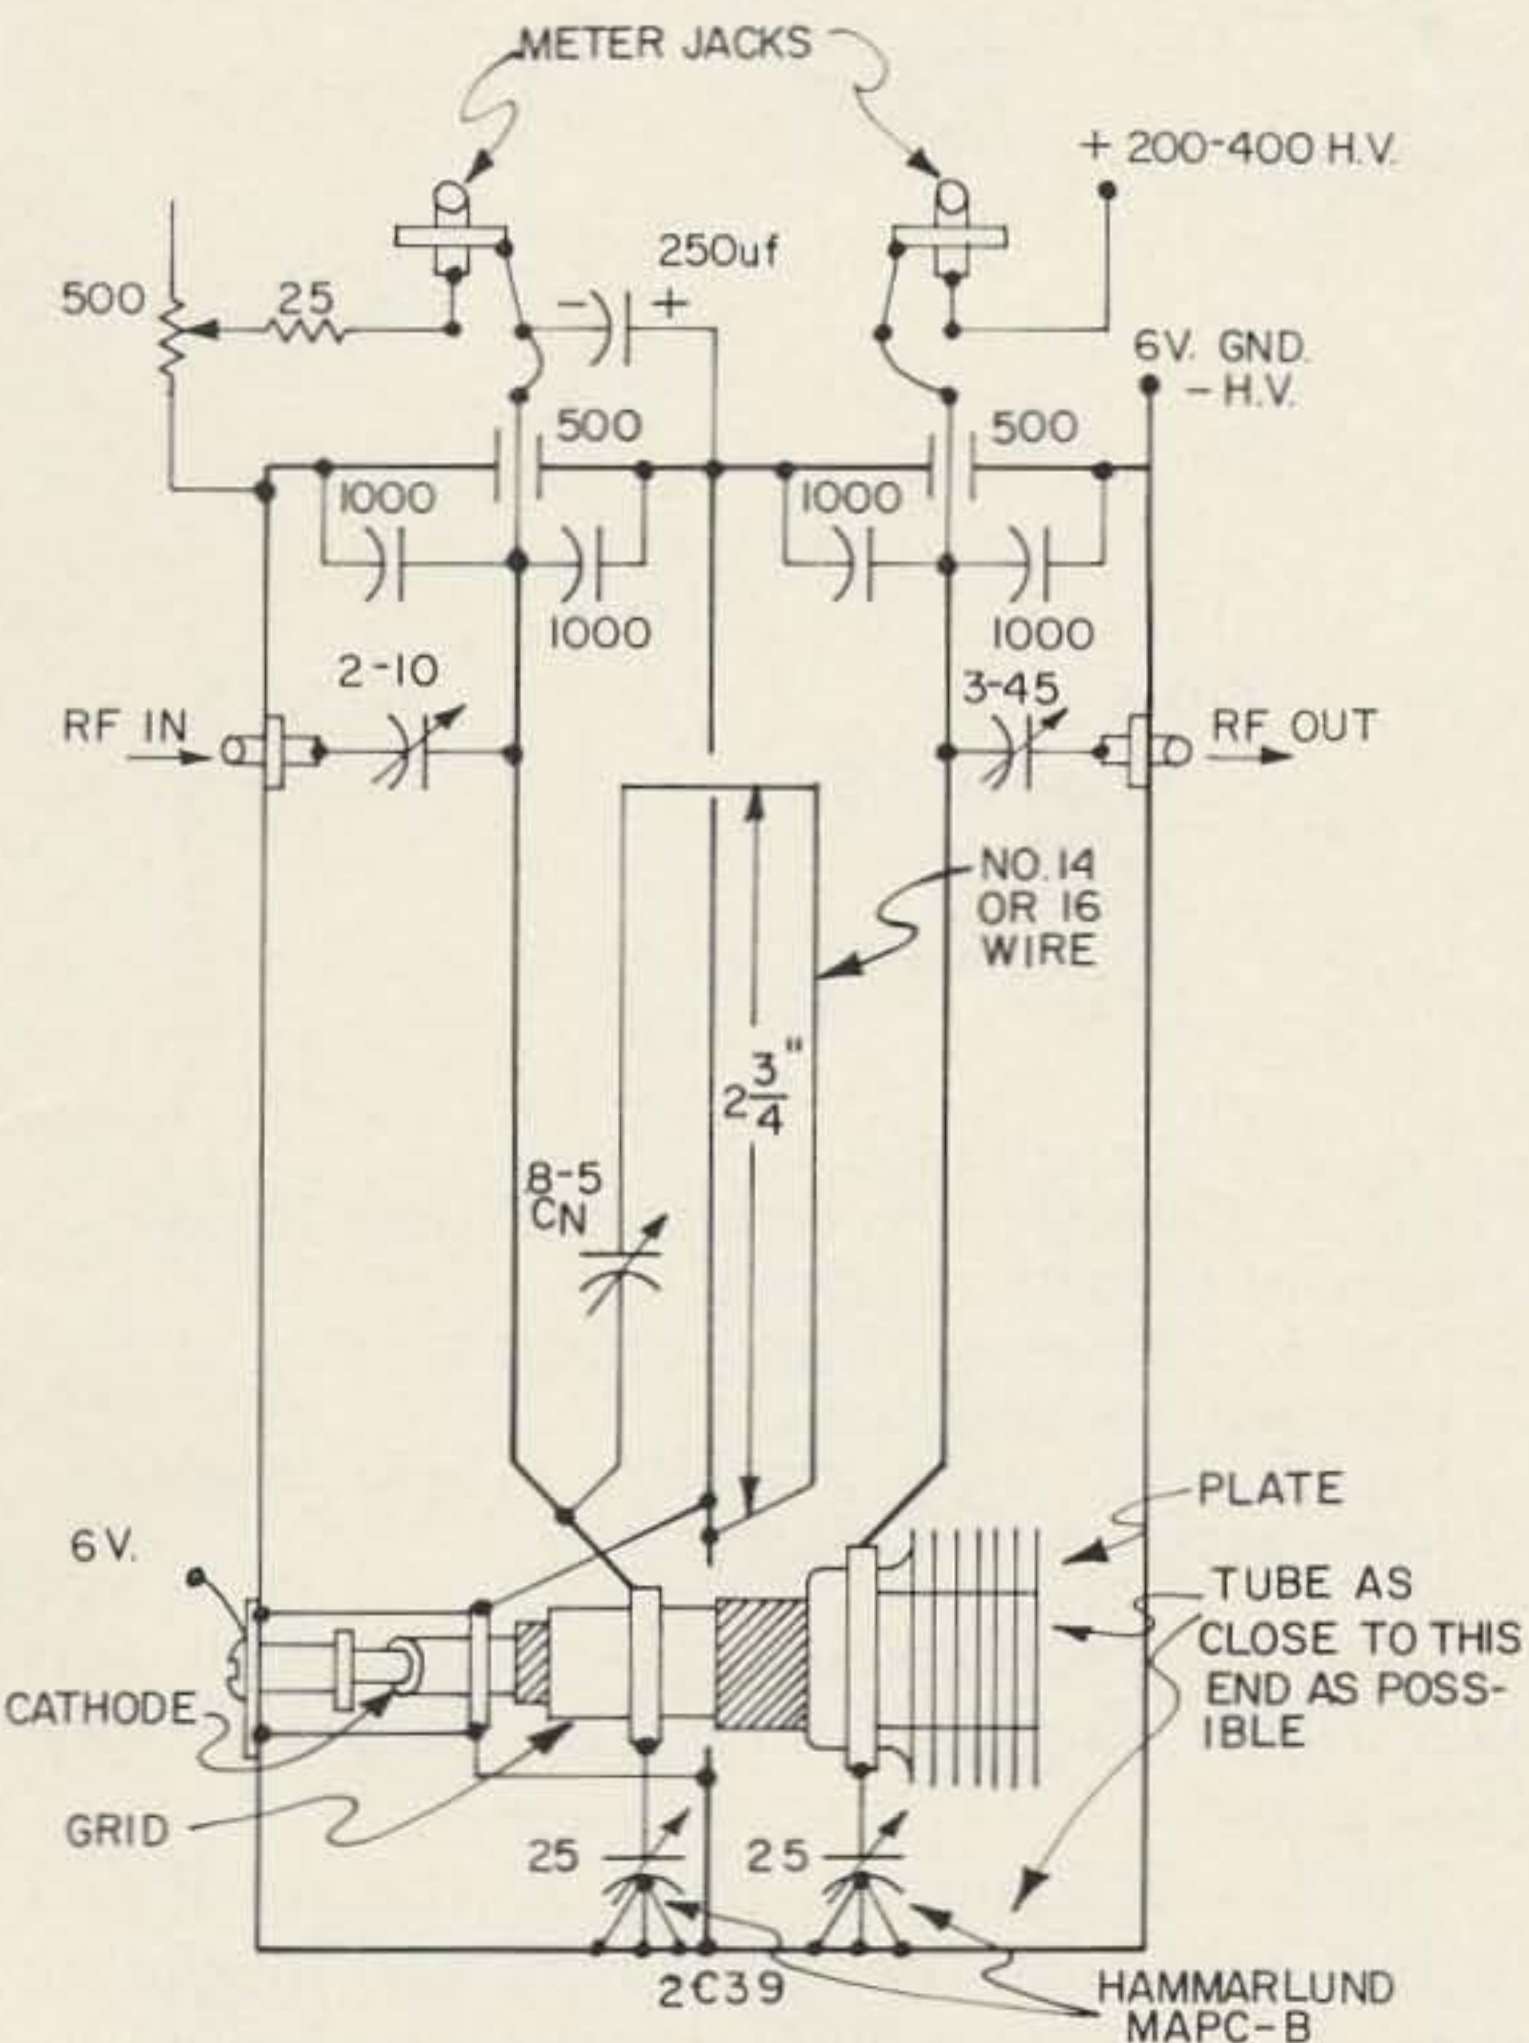

Fig. 1. 144 mc linear amplifier.
What does this do for you? As an example I quote again from F.C. Jones Handbook, "The 6146 is not too efficient at 144 mc." "This tube has to be neutralized by series tuning the screen grid lead inductance . . ." His circuit shows a 4 turn plate coil with series tuning, as in a half wave circuit. now look at the 2C39 circuit in Fig. 1. Parallel tuning, high Q, and how is it tuned? With a 25 mmfd capacitor between plate and ground. And what does it do? At half power capability (50 watts) it lights a 25 watt bulb to full brilliance, when driven by, of all things, a standard unmodified Two'er!
B.I.O.N., today, after many years of VHF and UHF and even microwaves, we VHF-UHF amateurs do not have the proper tubes to work with! As you can see from Fig. 1, the grid and the cathode have to "go through each other" to get where they belong. Admittedly, the 2C39 was not designed for grounded grid service. But what else have we got that will do the same job at anything like the price?